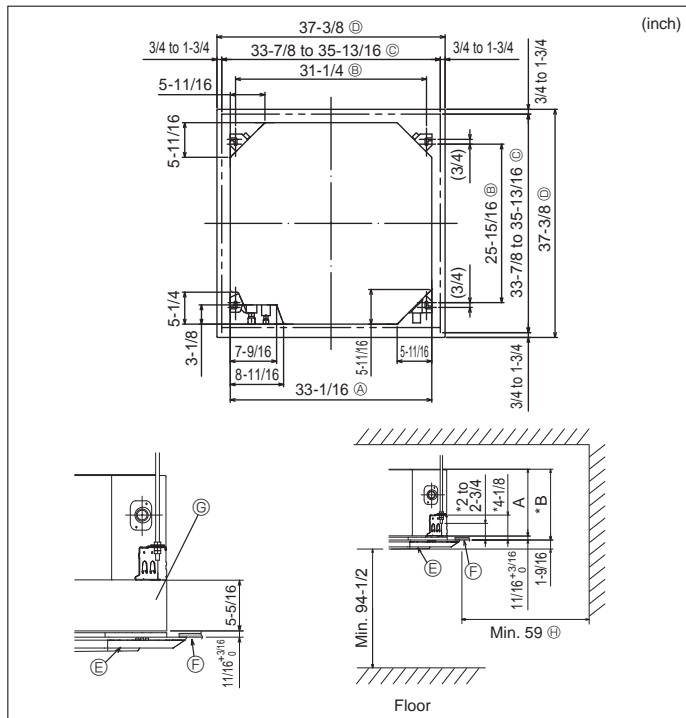

Fig. 3-2
④	Band (large)	6
⑤	Band (small)	2
⑥	Drain socket	1
⑦	Insulation	1
3.2. Ceiling openings and suspension bolt installation locations (Fig. 3-2)
- * The dimensions of ceiling opening can be regulated within the range shown in Fig. 3-2; so center the main unit against the opening of ceiling, ensuring that the respective opposite sides on all sides of the clearance between them becomes identical.